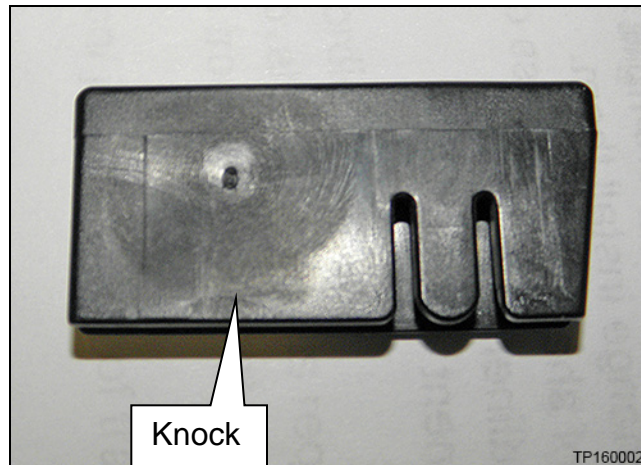

Figure 1
- Detached knocks (Knock shown in Figure 1) may lodge in the Moonroof track and prevent correct Moonroof, wind deflector or sunshade operation.